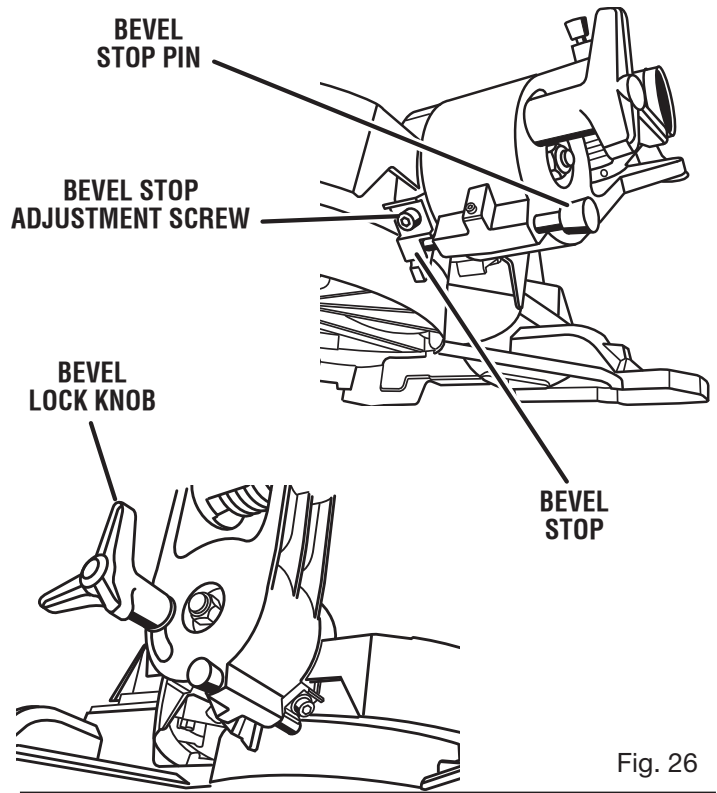

Fig. 26
- Using the blade wrench, loosen the bevel stop adjustment screw and slide the bevel stop left or right as needed to bring the saw blade into alignment with the square. Retighten bevel stop adjustment screw. See Figure 26.